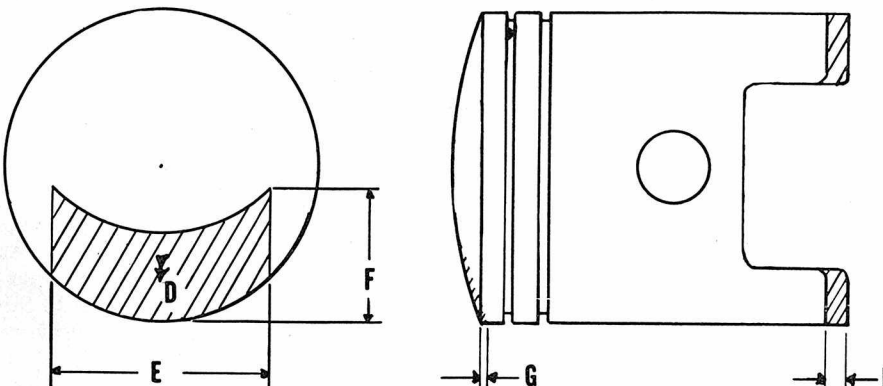

Fig. YT4-1—Areas of piston to be modified. Refer to text for appropriate dimensions.
Pistons (for 125cc models) should use only top (chrome) ring and should have 0.140 inch removed from skirt (I—Fig. YT4-1). All other dimensions remain standard.
Pistons for 180cc models may be modified to road racer specifications by removing 2 MM (0.078 inch) of metal from area adjacent to exhaust port (D—Fig. YT4-1). Cut should be 29 MM (1.141 inch) wide (E) and should taper back 12 MM (0.472 inch) toward center of piston. Cut should be gradual starting 2 MM deep at edge (G) of piston and ending toward center with no metal being removed. Cut 6 MM (0.236 inch) from piston skirt (I).